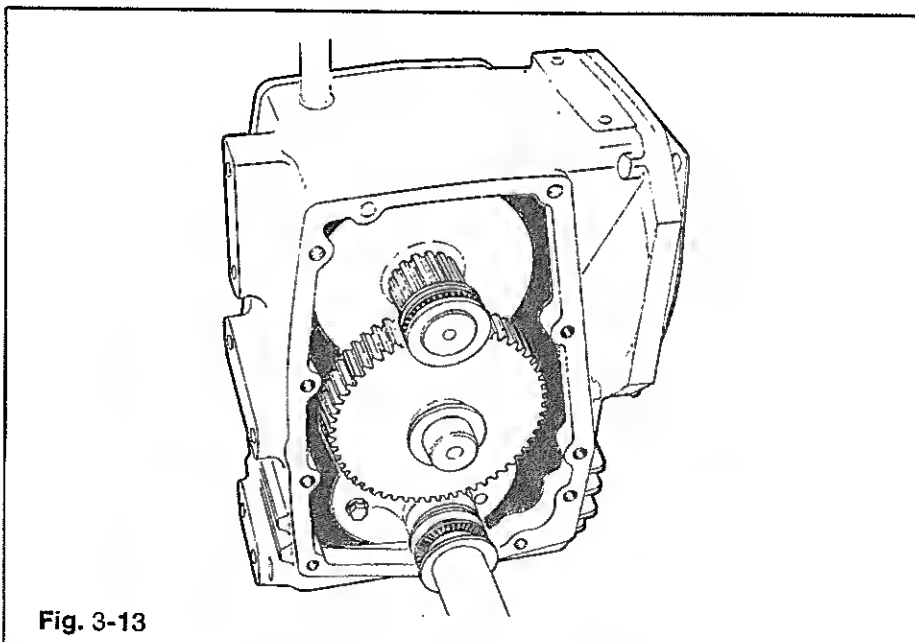

Fig. 3-13
2. Install carrier and axle assembly Figure 3-13 into the left side housing. Be careful not to damage axle seal in end of housing. Apply a $1/32''$ (0.8 mm) bead of sealant around cover flange. Keep bead to the inside of bolt holes.
7. The right side of the bevel gear must have a thrust bearing assembly. The cluster gear must have a thrust washer and the axle shaft a spacer and torrrington bearing assembly. Refer to Figure 3-13. After the bearings and spacers are